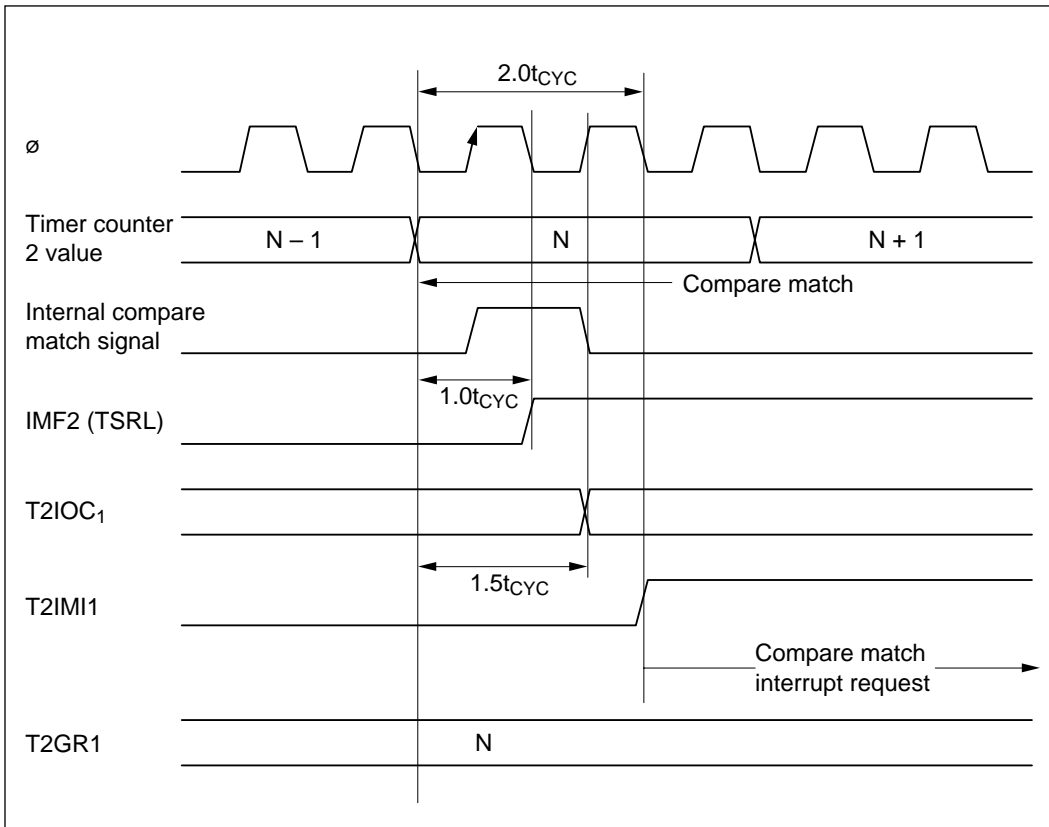

Figure 11-46 Timing from Incrementation to Compare Match Interrupt Request
(1) Output Compare Timing: Figure 11-46 shows the timing from counter incrementation to generation of a compare match interrupt request. One system clock cycle ($1.0t_{CYC}$) after timer counter 2 matches the T2GR1 value (N), the IPU sets the input capture/compare match flag (IMF). A compare match signal ($T2IOC_1$) is output $0.5t_{CYC}$ after IMF is set. The interrupt request ($T2IMI1$) is generated $0.5t_{CYC}$ after the $T2IOC_1$ output. The $T2IMI1$ interrupt request therefore comes $2.0t_{CYC}$ after the counter is incremented to N.